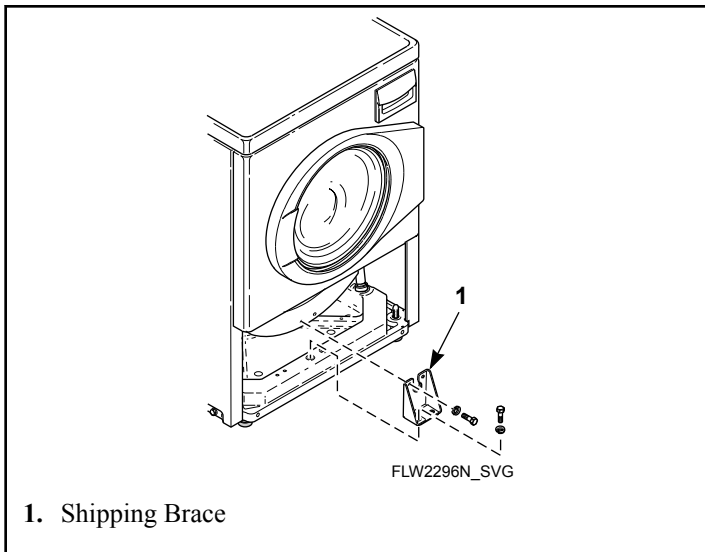

Figure 20
4. Attach shipping brace to weight and base using four bolts and washers. Refer to *Figure 20*.